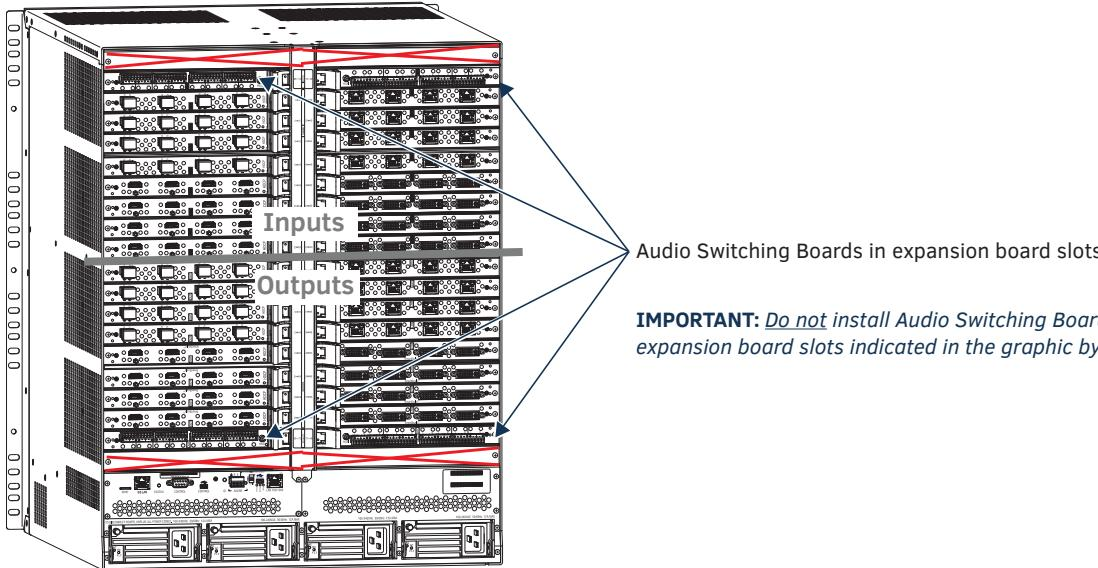

FIG. 73 Audio Switching Boards installed in correct expansion board slots in Enova DGX 6400
- Enova DGX 6400 Audio Switching Boards *must* be installed in specific expansion board slots (see FIG. 73 on page 129).
- (1) any of the standard video output board connectors, (2) any of the terminal block connectors on the Audio Switching Output Board, or (3) a combination of standard video output connectors and terminal block connectors.
- **Enova DGX 6400** enclosures – *Must* use two input boards and two output boards in specific expansion board slots (see FIG. 73 below). Boards are installed horizontally.